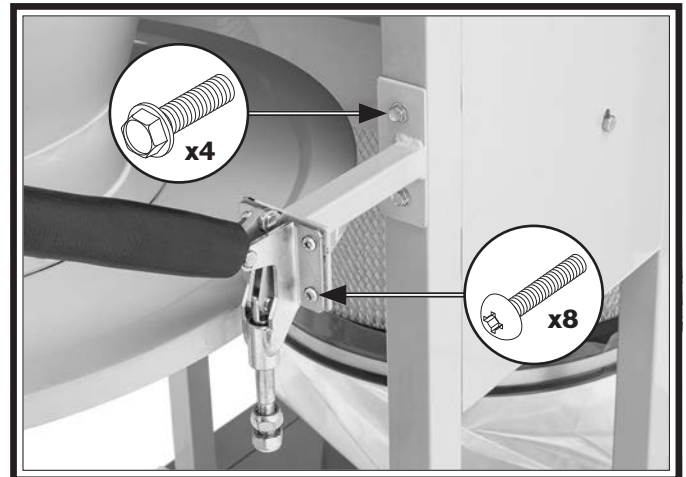

Figure 20. Drum lock handle attached to side panel.
13. Attach (2) drum lock handle brackets (see **Figure 20**) to side panels with (4) $\frac{1}{4}$ "-20 x $\frac{1}{2}$ " flange bolts.
14. Attach drum lock handle to brackets with (8) M5-.8 x 8 Phillips head screws (see **Figure 20**).